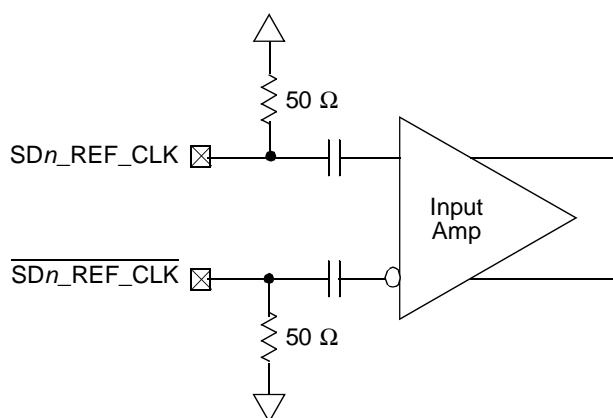

Figure 43. Receiver of SerDes Reference Clocks
- The SD_REF_CLK and $\overline{SD_REF_CLK}$ are internally AC-coupled differential inputs as shown in Figure 43. Each differential clock input (SD_REF_CLK or $\overline{SD_REF_CLK}$) has a 50- Ω termination to $SGND_SRDS$ followed by on-chip AC-coupling.